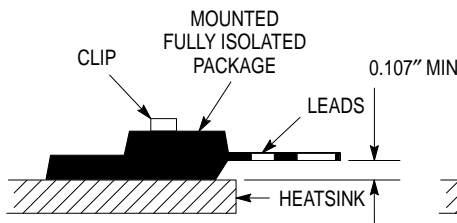

Figure 4. Clip Mounting Position for Isolation Test Number 2
- (1) UL Recognized mounting method is per Figure 4.
(2) Proper strike and creepage distance must be provided.